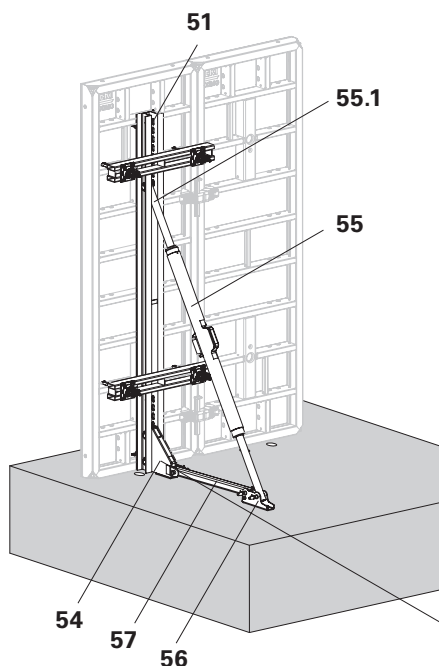

Fig. D1.01
3. Fix the Tension Strut SB-L (57) to the Anchor Bracket SB-L and Base Plate by means of Bolts $\varnothing$ 20 and Cotter Pins.
4. Fix the Heavy-Duty Spindle SLS (55) to the Steel Waler SRZ 245 using Fitting Pins (55.1) and Cotter Pins; mount on Base Plate (56) with Bolts and Cotter Pins. (Fig. D1.01 + D1.02)
6. Position the Support (59) in the area of the Anchor Bracket, and fix the Brace Frame on the element: see D2 Connecting to the Systems.